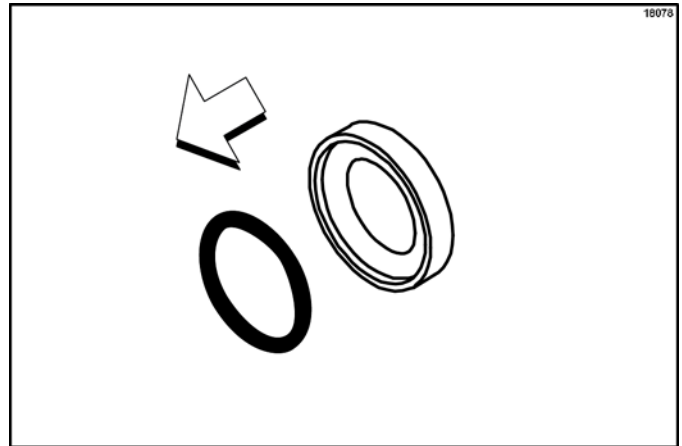

Figure 6-97
8. Remove the seal O-ring from the seal. (See Figure 6-97.)